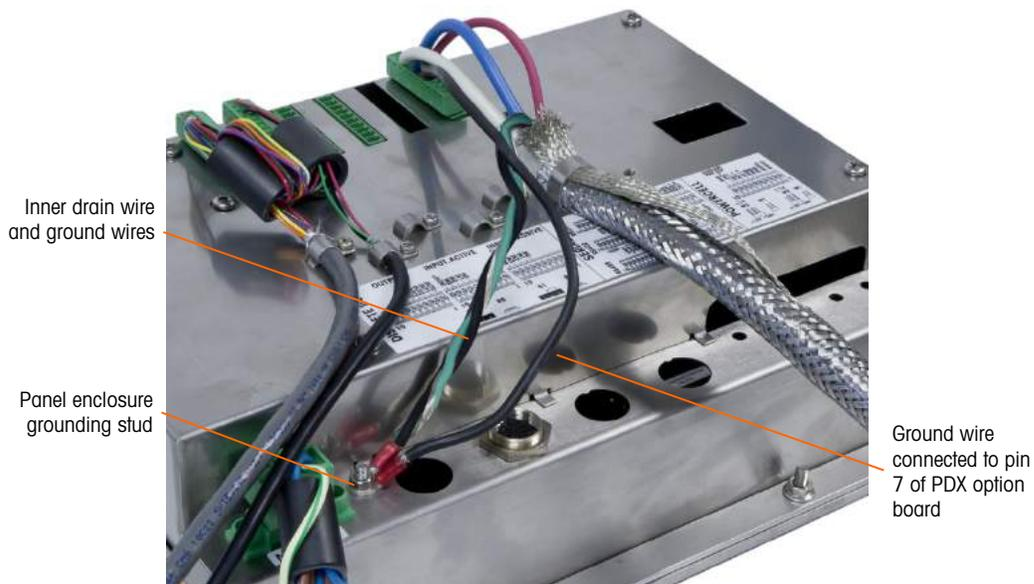

Figure A-69: Completed POWERCELL PDX Home Run Power Ground Connection, Panel Mount Enclosure
4. Twist the home run cable's inner drain wire together with the black and green ground wires and attach them to the external ground stud, as shown in Figure A-69.